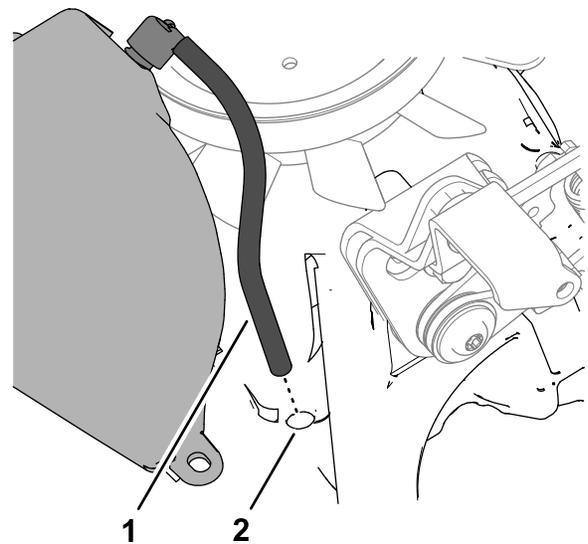

Figure 60
5. Insert the vent hose of the expansion tank into the hole in the main transaxle housing (Figure 60).